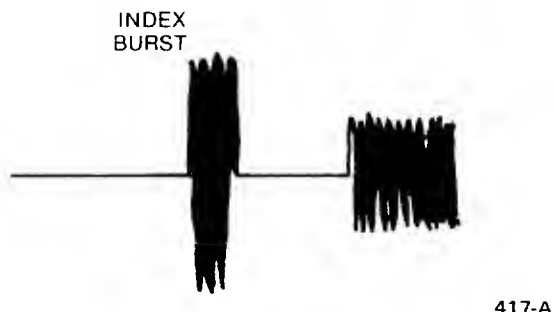

Figure 38. Index Burst Pattern
6. Observe on the oscilloscope the index burst pattern shown in Figure 38.